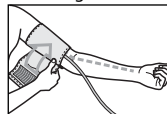

Fig. 6
2. Apply the cuff to your left upper arm so that the air tube is directed to your palm (fig. 6). If the measurement on your left arm is difficult, you may use your right arm. In this case remember that the readings may differ by 5-10 mmHg and even more.